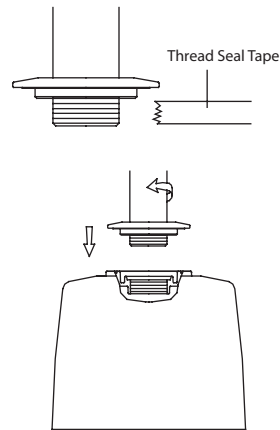

FIG. 3
4. After winding the THREAD SEAL TAPE, screw the bracket on the housing. (FIG. 3)